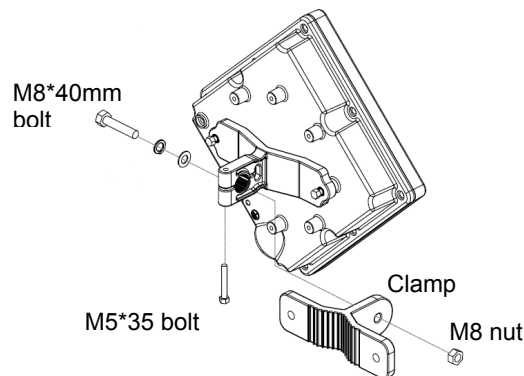

Figure 2
2. Thread the M8*40mm bolt through a spring washer and a flat washer and then through the bracket hole. (Figure 2)
3. Thread the M5*35mm bolt through the designated hole in the bracket. (Figure 2)